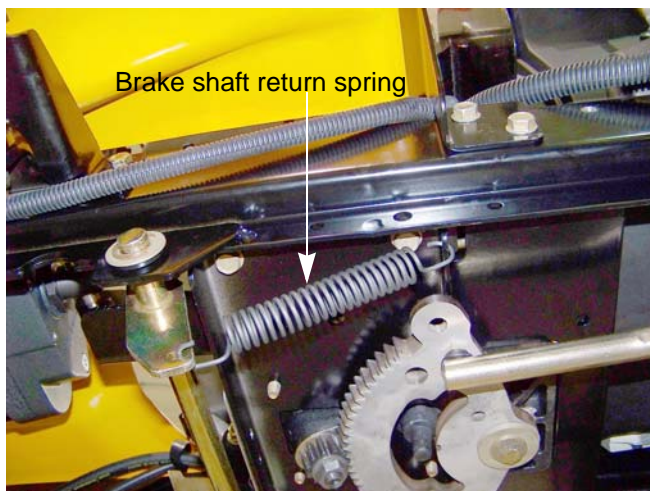

Figure 3.11
5. Disconnect the brake shaft return spring. See Figure 3.11.